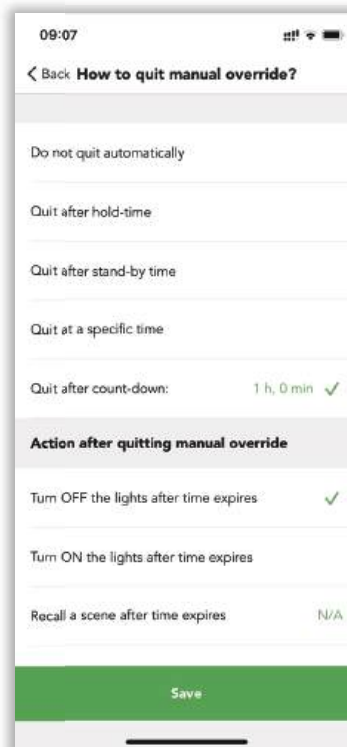

Figure 8.8 Quit mode-3
5. Quit after count-down time. We also provide a count-down method for the users. If the users know what time they want to stay in the manual control mode, they can use this option. For example, in an office, the maintenance team will usually take 1 hour to quickly check the whole office luminaires status. So, once they process the checking, they will switch all the luminaires to 100% brightness through the push switch, users can set the count-down time to 1 hour (see figure 8.8). After 1 hour the maintenance team finished their work, the luminaires will switch back to the auto mode and will run the dedicated scene automatically.